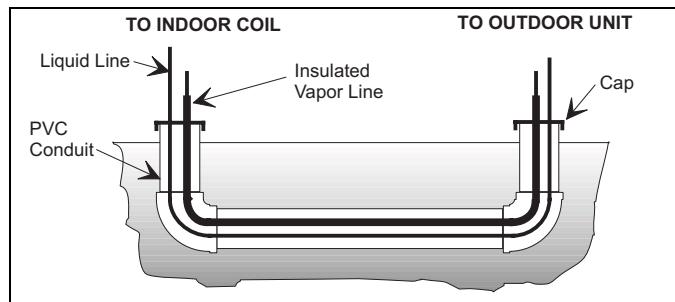

FIGURE 4: Underground Installation
6. Use PVC piping as a conduit for all underground installations as shown in Figure 4. Buried lines should be kept as short as possible to minimize the build up of liquid refrigerant in the vapor line during long periods of shutdown